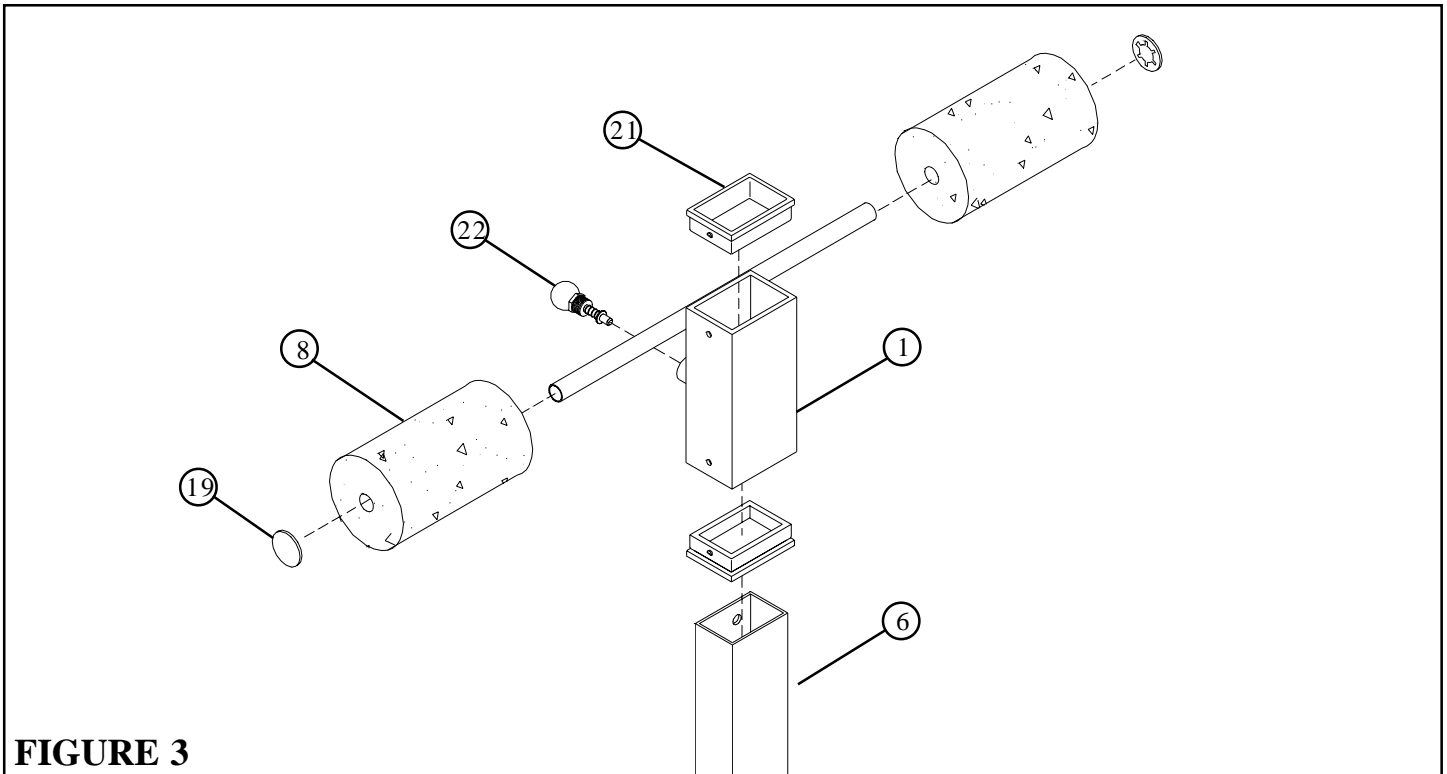

FIGURE 3
- Insert two 3 X 2" INSERT GUIDES (21) into the end of each of the ROLLER PAD SUPPORT (1) as shown in FIGURE 3.
- **SECURELY** assemble the SPRING PIN ASSEMBLY (22) to the ROLLER PAD SUPPORT (1). See FIGURE 3.
- Slide the two ROLLER PADS (8) onto the ROLLER PAD SUPPORT (1) using two STARLOCK COLLARS (19) as shown in FIGURE 3.
- Pull back the SPRING PIN and **CAREFULLY** slide the ROLLER PAD SUPPORT (1) over the REAR UPRIGHT (6). as shown in FIGURE 3.